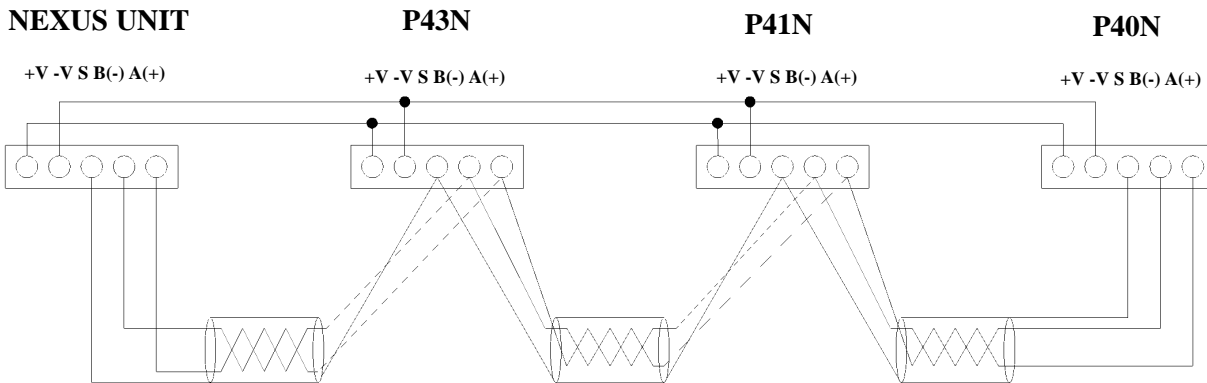

Figure 6.2: P40N Display Daisy Chain
- One cable (housing two-wire RS-485 and two-wire power wires plus shield) is used to connect the displays. One port of the Nexus meter supports 12 VA. Each P40N, P41N or P43N requires 3.3 VA (maximum 3.8 VA). The Master Display (P40N) is the master in communication. The Amp, Power and Nexus devices are slaves in communication. Therefore, the Master Display (P40N) should be at the end of the daisy-chained units as shown in Figure 6.2 below. The Nexus port is set at 1. Protocol is Modbus RTU and Baud Rate is 9600.
NOTE: The power lines in Figure 6.2 are shown separate for clarity. All lines are actually in one cable.